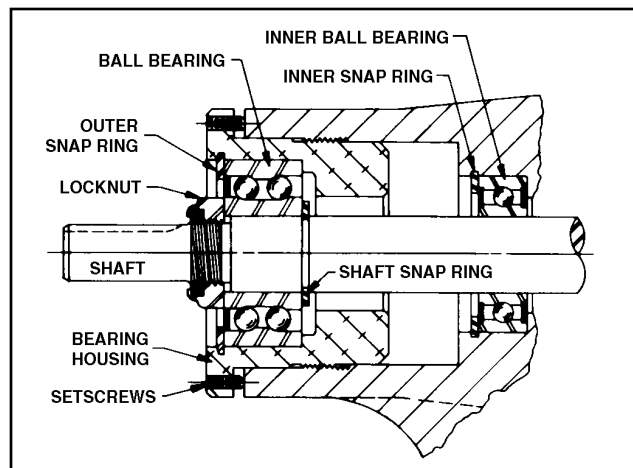
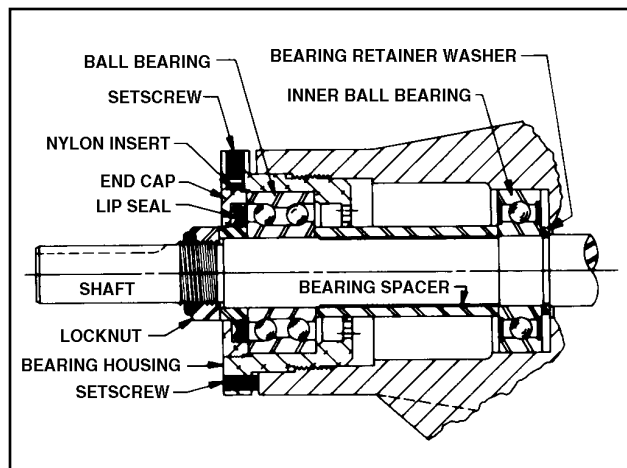

Figure 30 - Thrust-Bearing assembly (GG, HJ, HL)
Figure 31 - Thrust-Bearing assembly (AS, AK, AL)
5. Insert a brass bar or piece of hardwood in the port opening and between rotor teeth to keep shaft from turning. Turn the locknut counterclockwise and remove locknut. See Figure 30 or 31.
6. Loosen two setscrews in face of bearing housing and turn thrust bearing assembly counterclockwise and remove from casing. See Figure 30 or 31.
7. **GG, HJ, HL:** Remove snap ring from shaft. See Figure 30. **AS, AK, AL:** Remove bearing spacer from shaft. See Figure 31.
10. **AS, AK, AL:** Remove bearing retainer washer. The washer may have stayed with rotor and shaft when removed or is against ball bearing. See Figure 31.
GG, HJ, HL: Remove outer snap ring from bearing housing and remove ball bearing. See Figure 30.
AS, AK, AL: Loosen two set screws in flange outside di-ame-ter. Rotate end cap and lip seal counterclockwise and remove. Remove ball bearing. See Figure 31.
- 12. GG, HJ, HL:** Install shaft snap ring in groove in the shaft. See Figure 30.
- AS, AK, AL:** Install bearing spacer over shaft and against single row ball bearing. See Figure 31.
- 13. Pack lubrication chamber between** inner ball bearing and double-row ball bearing in the thrust-bearing assembly approximately one-half full of multipurpose grease, NLGI #2. The thrust-bearing assembly will take the remaining space. See Figure 30 and 31.
GG, HJ, HL: Install ball bearing into bearing housing with shield side toward coupling end of shaft. See Figure 30. Install snap ring into bearing housing to retain ball bearing. This snap ring has a tapered edge to fit tapered groove in bearing housing. The tapered edge is located away from ball bearing.
AS, AK, AL: Install ball bearing into bearing housing. Install lip seal in bearing housing end cap. The lip should face towards end of shaft. Put bearing spacer collar in lip seal and install in bearing housing and tighten setscrews securely. See Figure 31.
See Figures 30 and 31.